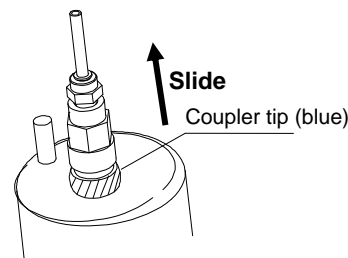

Figure 6
- (1) Remove the pre-process coupler simply by holding it by the light blue tip and pulling upward. (See Figure 6.)
- (2) Remove from the "IN" side first, followed by the "OUT" side.